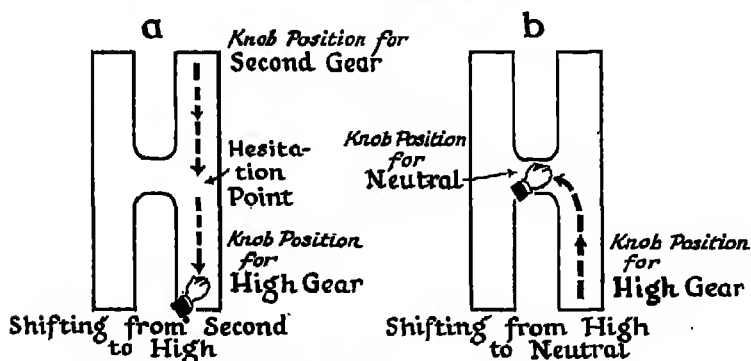

FIG. 178. The gear-shift lever knob is pulled back in a straight path when shifting from second to high gear.
- c. Move the gear-shift lever directly to neutral, in the direction indicated in Fig. 178 (b).